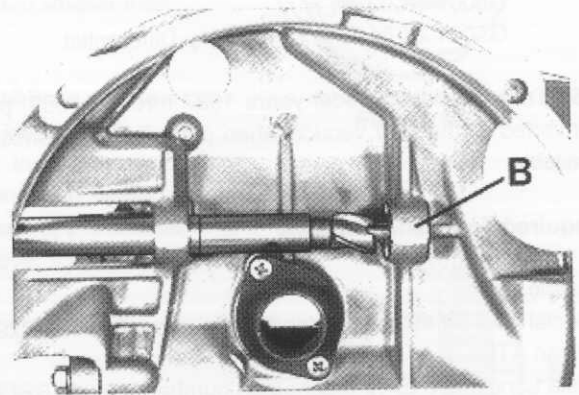

Figure 3
4. Cut bearing support B in figure 3 with guide pin (9292-3), cutter (9292-1) and arbor/guide (9292-2) until cutter bottoms out (noticeable resistance).